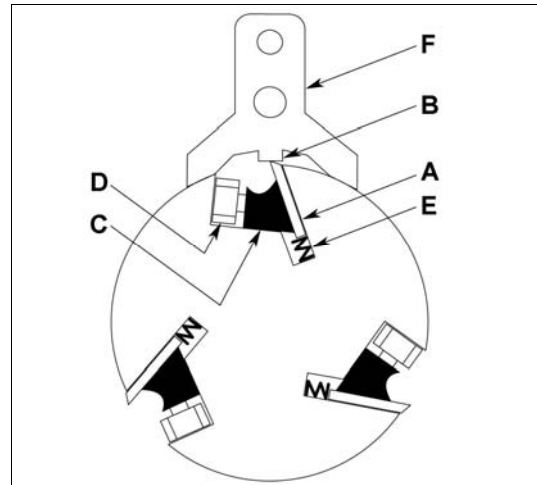
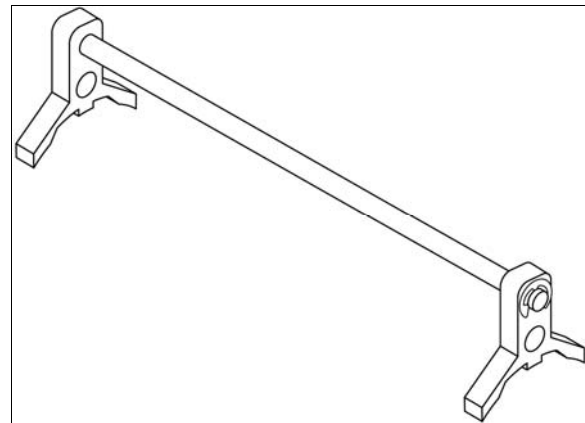
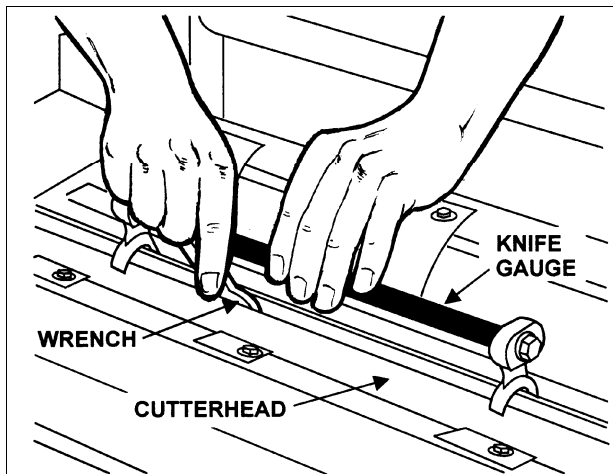

Figure 21
Figure 22
Figure 23
3. To check and adjust the knives, use the provided *knife gauge* (Fig. 22) and check all three knives. Press the knife gauge against the cutterhead as shown in Figure 23.
Referring to Figure 21:
7. After all three knives are set with screws just snug, back out and tighten the six gib screws (D, Fig. 21 & Fig. 23) of the first knife against the slot starting with the end screws, then the center screws, until the knife is securely held in the cutterhead. Tighten remaining two knives in the same manner.
Refer to Figure 21:
3. Loosen the *gib* (C) by turning the six *gib* screws (D) into the gib. Remove gib (C), knife (A) and springs (E).
8. Place knife gauge (Fig. 23) over knife.
Still referring to Figure 21: